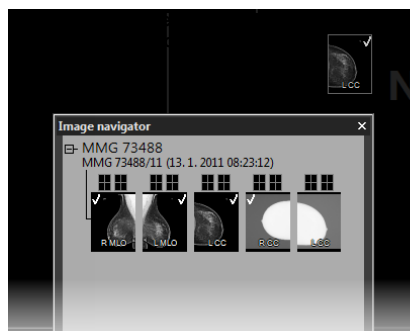

Figure 456 – Dragging an image from the study preview to the screen
- Use the drag-and-drop technique to drag the image from the study overview to the view in the mammography workspace on the left or right monitor (see Figure 456).